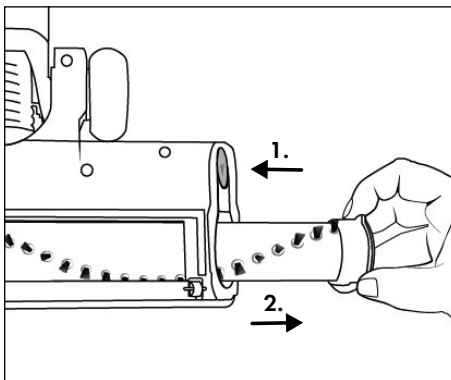

Fig. 26
- ▶ Only use the appliance with the rotary brush ⑳ properly mounted.
- 2) Unlock the rotary brush ㉒ by pressing your finger on the rotary brush release ㉓. The rotary brush ㉒ comes free from the mount and can be pulled out of the floor brush ㉑ (see Fig. 26).